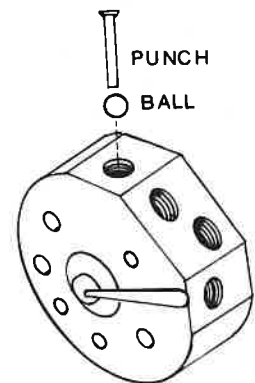

Fig. 20
29. Turn the valve over so that valve seat holes are turned up. Taking one side at a time, drop a steel ball in position as shown. Fig. 20 Move control lever *away* from side you are working on. Seat the ball using a punch and hammer. A light tap is all that is required to seat the ball correctly. **NOTE:** Some valves shafts will fit perfectly the first time; others will have to be fitted and ground.